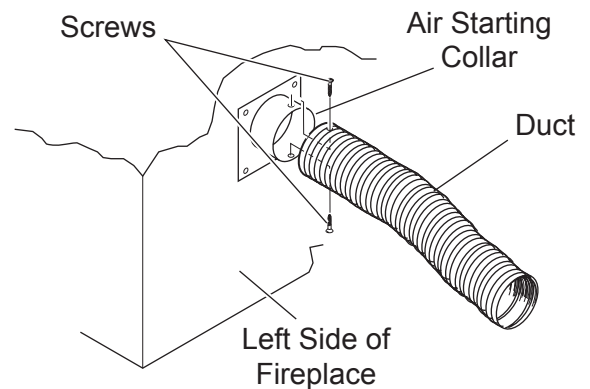

Figure 22- Attaching Outside Duct to Starting Collar
4. Attach outside duct to starting collar with duct clamp or screws. *See Figure 22.*
6. Select and cut a piece of duct long enough to attach to the fireplace and stick out at least 3" beyond the face of the wall to which the AK-4 inlet air vent will be attached. *See Figure 22.*